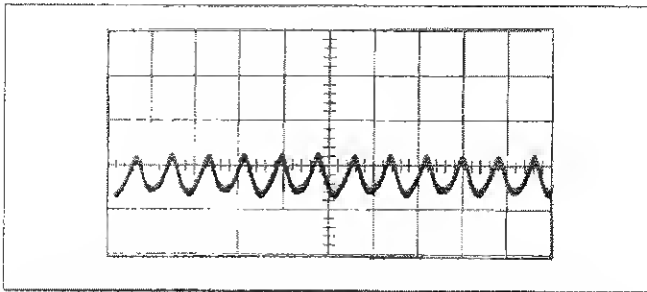

FIGURE 9. Typical Ripple Obtained for the 15 Volt Supply. The scale is 1 millivolt per division vertical, and 10 milliseconds per division horizontal.
3. The ripple in each case must be less than 2 millivolts peak-to-peak. Figure 9 shows typical ripple for the 15 volt supplies.